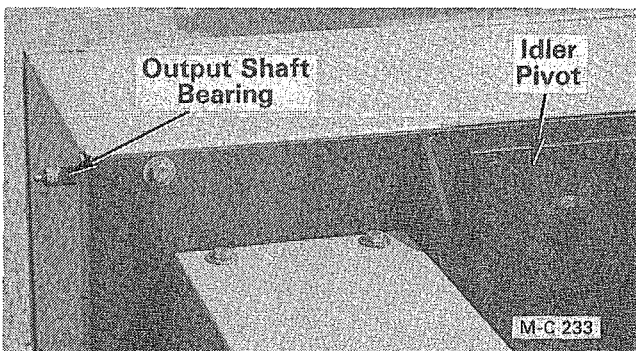

Figure 21 - Two on Model 2408
3. Output shaft bearings, see Figure 21 and 22.